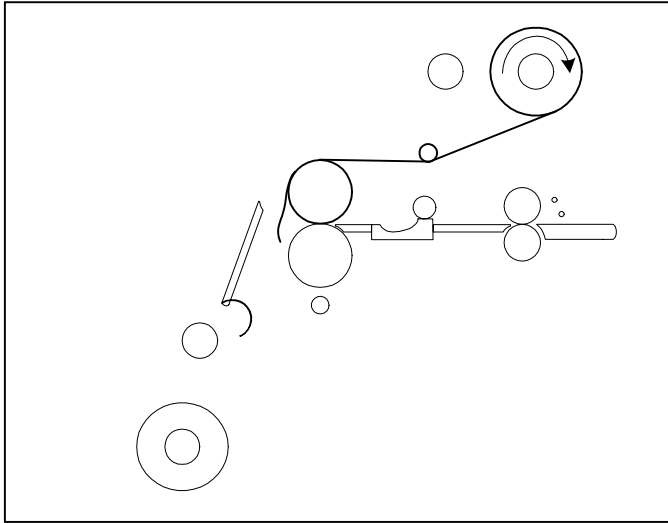

Fig. 22
This procedure describes how to load the upper roll of film onto the laminator. Figure 22 uses poly-in film and the upper rear unwind/rewind position for illustration purpose.
1. Turn the **Power ON/OFF** to on (I). Set top heat temperature for the film type you are using.
4. Pull the top roll of film down under the idler bar and allow to drape over the top heat roller (Figure 22).